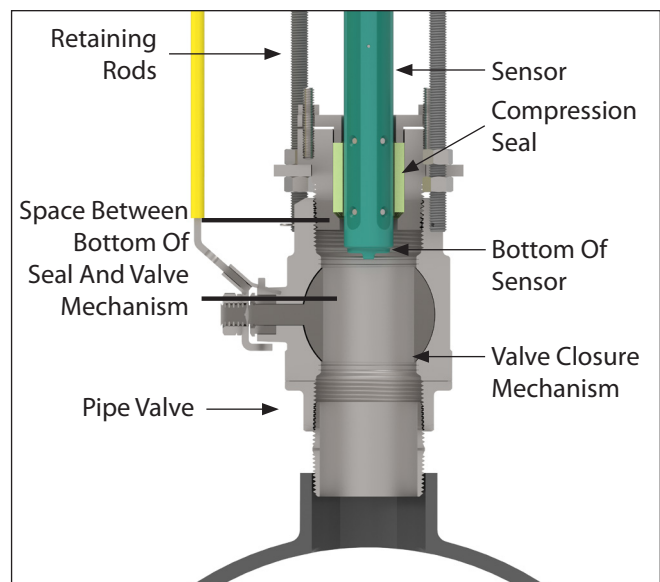

Figure 27. Cross-Section Of Meter Showing Sensor Removal
10. Rotate the captive nuts on the top plate simultaneously. The sensor insertion tool is recommended. See Installation, STEP 10. This will cause the sensor to rise out of the pipe. If the line is under pressure do not remove the sensor from the compression seal completely. Only raise the sensor until it is clear of the valve, but still below the compression seal. See Figure 27. Once the sensor has cleared the valve mechanism, the valve can then be closed. Do not attempt to force the valve closed while the sensor is still passing through the valve as permanent damage to the sensor can occur.